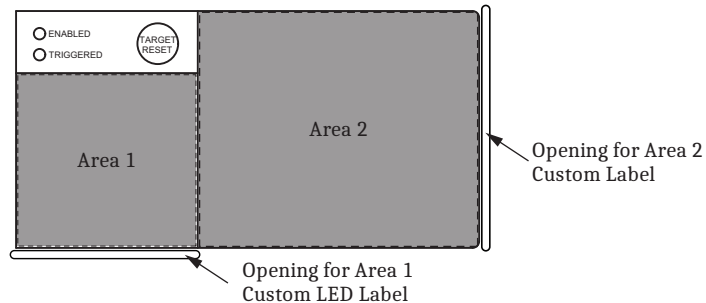

Figure 1 Openings for Front-Panel Custom Labels
The SEL-TWFL comes with permanent labels for the front panel (Area 1 and Area 2 shown in *Figure 1*). If you prefer different labels, you can insert your own. Either design your own labels or print your own by using the Microsoft Word .dot template file along with the perforated stock sheet that is available in the Custom Label Kit (part number 9260155). *Figure 1* shows the two openings that allow you to insert and remove custom labels.
- Step 1. Slide the tip of the tool under the label at the pocket opening (see *Figure 1* for the opening locations).